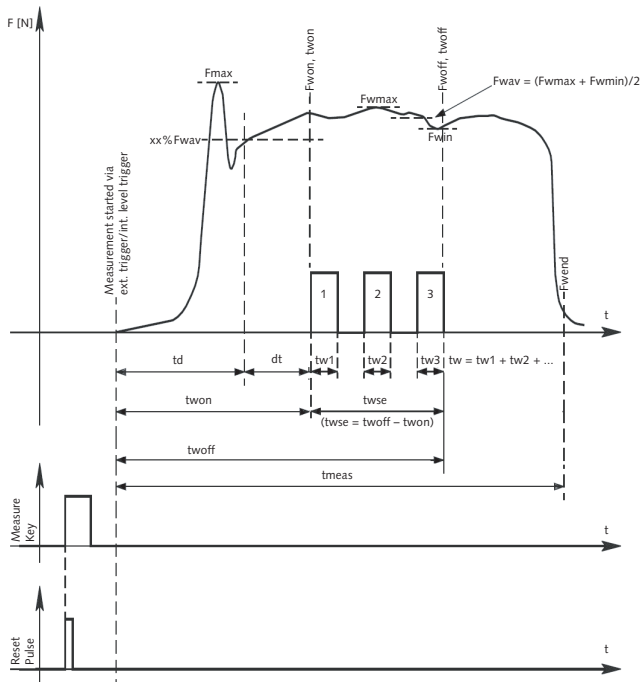

Fig. 5: Evaluation of welding curve in pulse welding
- t_w** Duration of the welding process (weld signal); with impulse welding, this is the total time of the individual pulses without pauses (see Fig. 5).
- t_{wse}** Total time of the welding process in pulse welding (total time of the individual pulses with pauses; see Fig. 5).